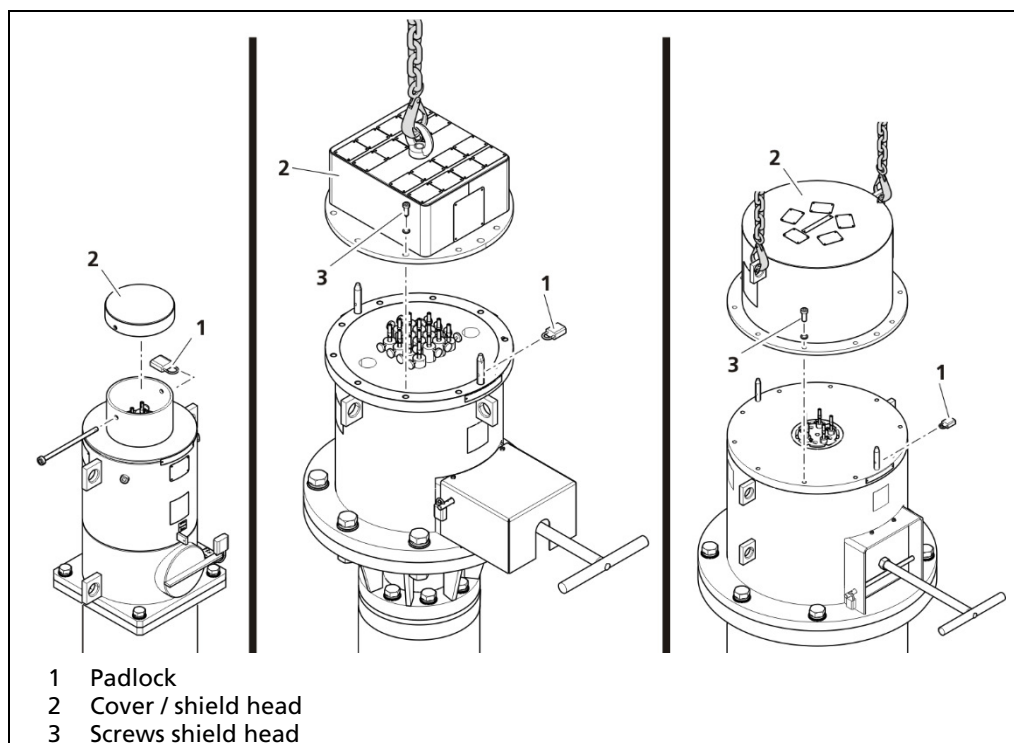

Fig. 13 Remove cover / shield head
1. Remove the padlock (Fig. 13, item 1) on the cover / shield head (Fig. 13, item 2).
7. Close the cover (shield head: Fig. 13, item 2) of the shield, screw and lock it. Store the handle bar at its intended storing position.